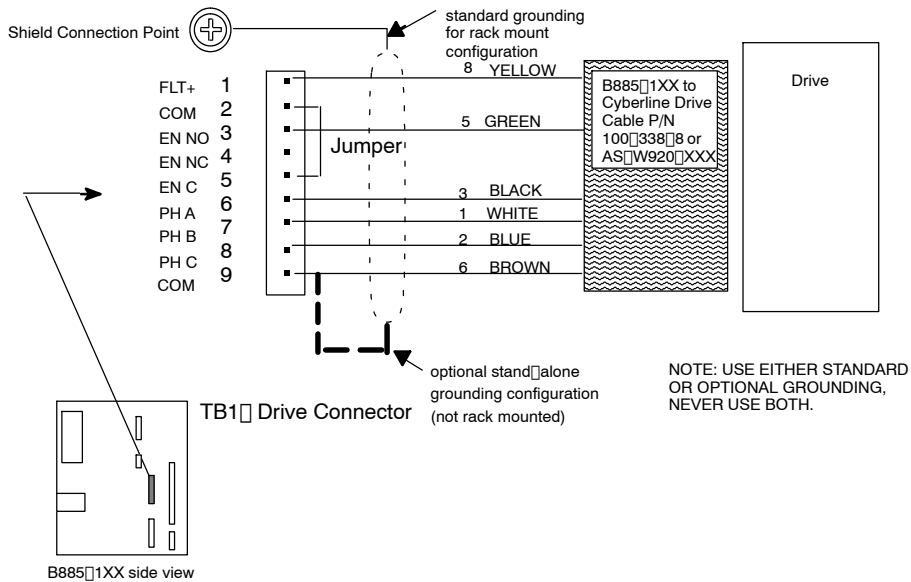
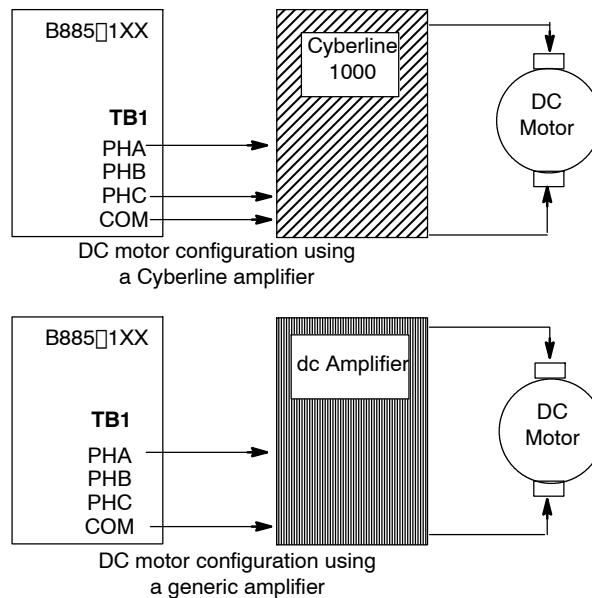

Figure 9 TB1 Drive Typical Wiring
Figure 10 Typical DC Motor Wiring
Three current commands are provided to control a 3-phase brushless ac motor. For dc drives, only two of the three phases are used. The current commands will be $\pm 10\text{ V @ }5\text{ mA}$. A 12 bit D/A convert is to generate signals for two phases, which are then scaled using a current command signal output by another 12 bit D/A converter. The resulting signals are output as phase A and phase B, and their sum is output as phase C. Refer to Figure 9 and Figure 10.
Step 7 Wire the drive fault (FLT+) signal from the drive connector to B885-1XX TB1 connector (pin 1). Refer to Figure 9.